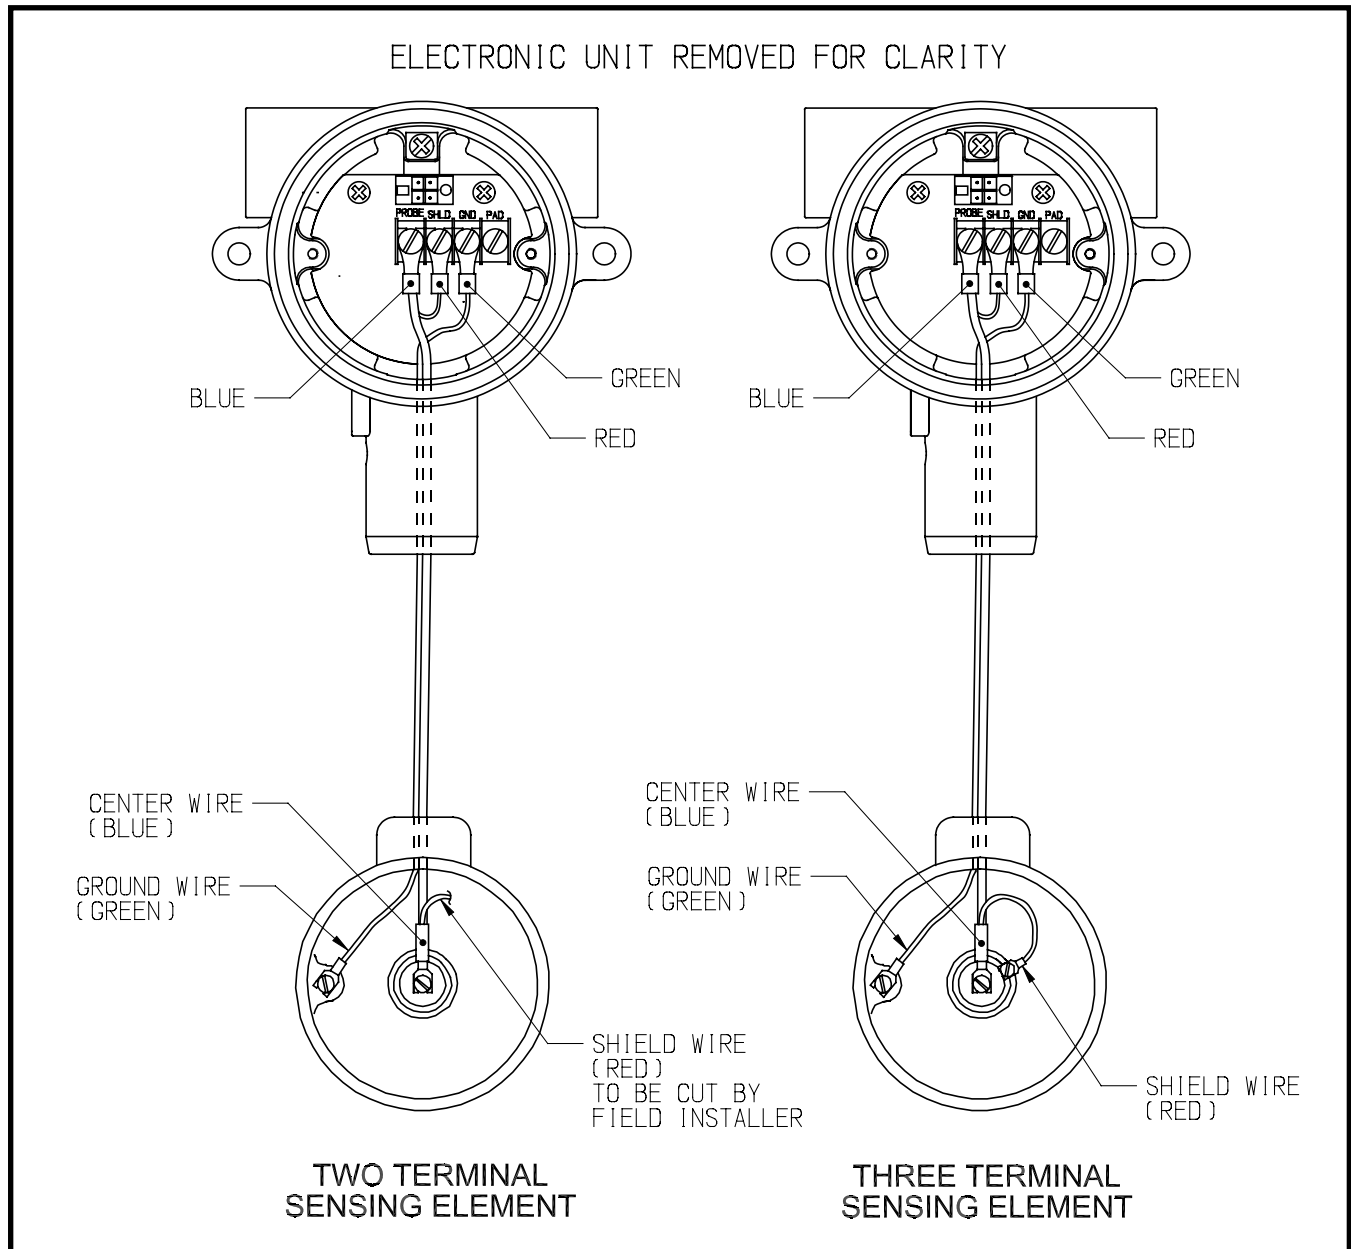

Figure 3
The cable connections to the remote sensing element are shown in **Figure 3**.
- If the sensing element does not have a shield connection, be sure to clip and/or tape the shield wire at the sensing element end of the cable only. See **Figure 3**
The cable from the sensing element is connected to the terminal strip below the instrument chassis. The cable connections are probe, ground (GND) and shield (SHLD) - See **Figure 3**